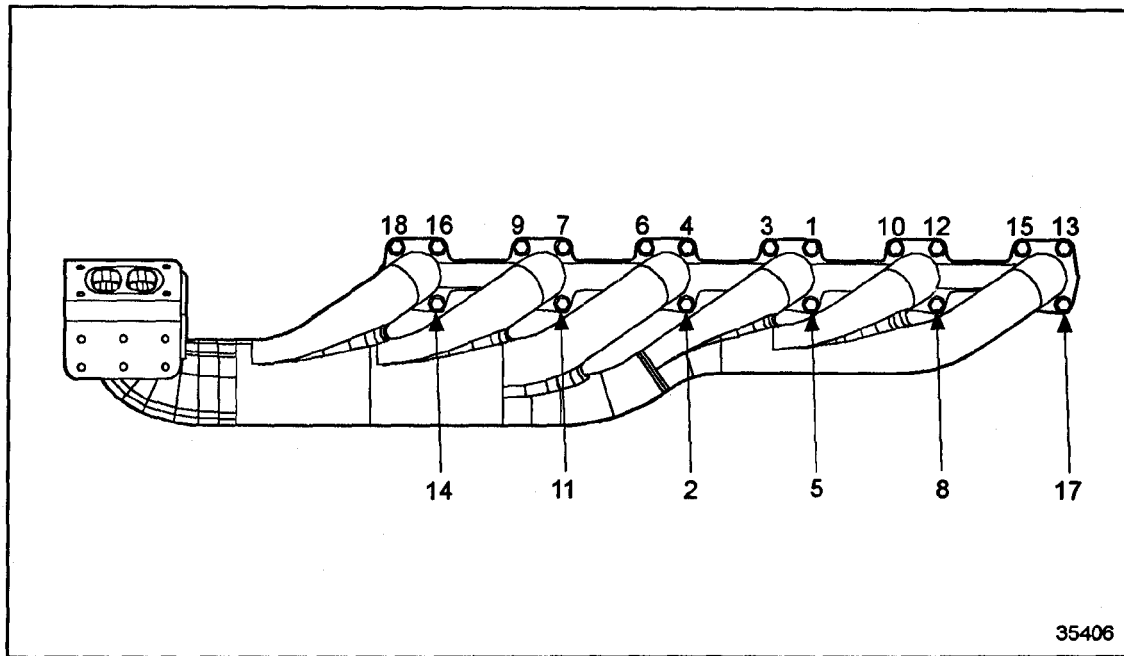

Figure 7-13 One-Piece Water-Cooled Exhaust Manifold Bolt Torque Sequence
2. Install the exhaust gaskets (3) to the guide studs.
7. Torque the bolts to 58-73 N·m (43-54 lb·ft) using the tightening sequence. See Figure 7-13.